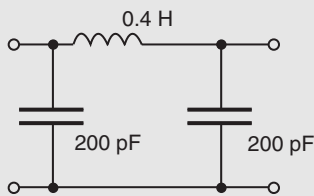

Figure 17.9
**Problem 2.** Determine the cut-off frequency and the nominal impedance for the low-pass  $\pi$ -connected section shown in Fig. 17.9.
Comparing Fig. 17.9 with the low-pass section of Fig. 17.7(b), shows that: